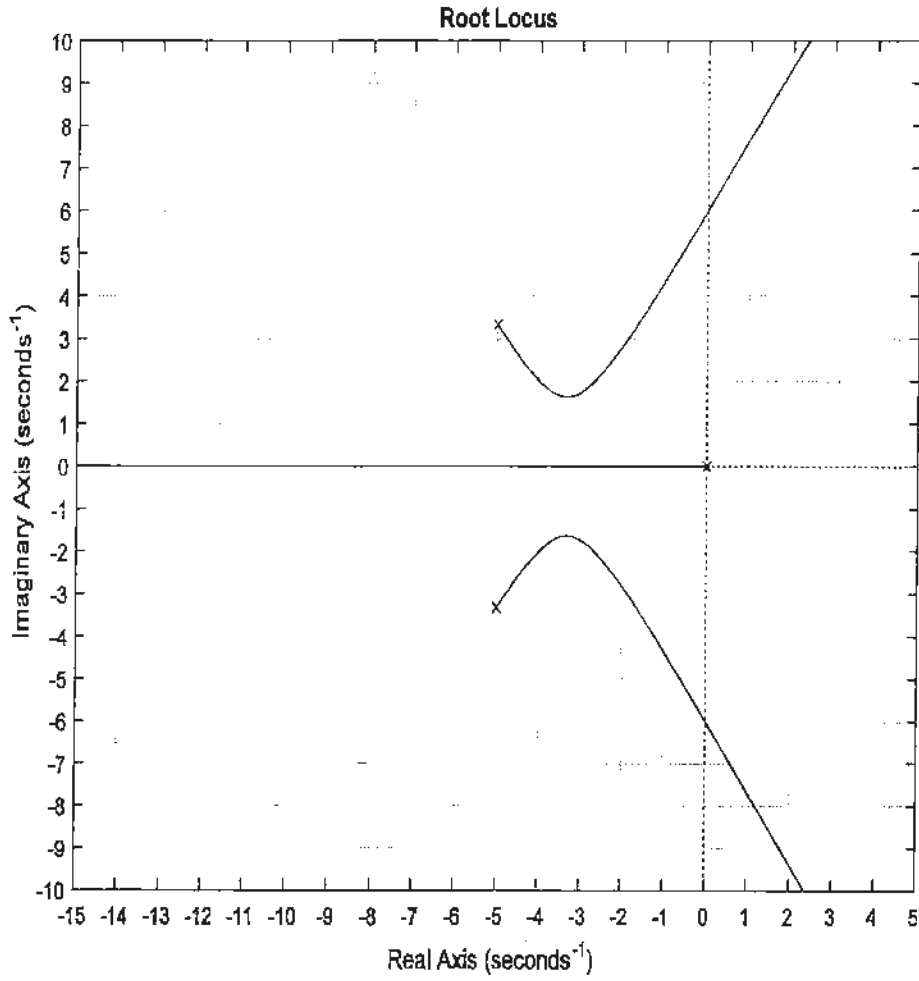

Figure Q4.2 – Root Locus of the System in Question 4
- 1) **(5 marks)** A Root Locus plot for this system is shown in Figure Q4.2. Calculate asymptotic angles, the location of the centroid and angles of departure from the complex open loop poles. Next, clearly superimpose these on the plot in Figure Q4.2.
- 2) **(5 marks)** Locate and label the coordinate of the crossover with the Imaginary axis (i.e. the marginal stability condition) on the Root Locus plot in Figure Q4.2 and read off the corresponding value of the frequency of marginal stability oscillations,  $\omega_{osc}$ . Next, calculate the corresponding value of the critical gain,  $K_{crit}$ , at which the system becomes marginally stable.